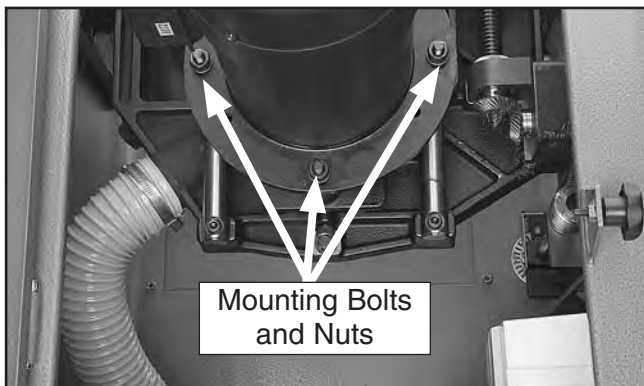
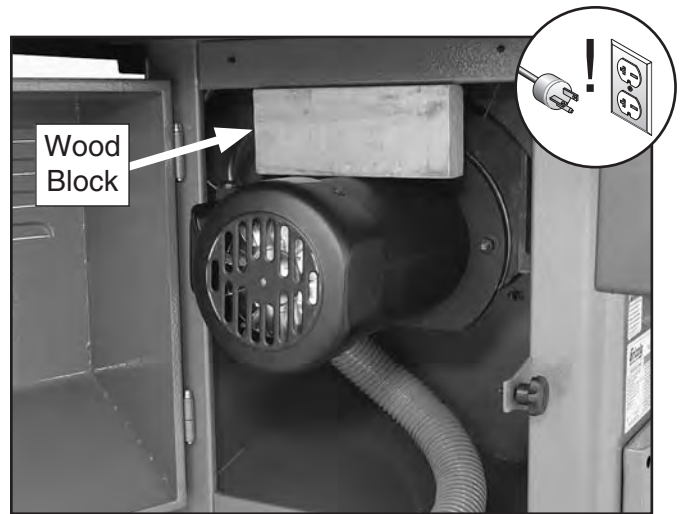
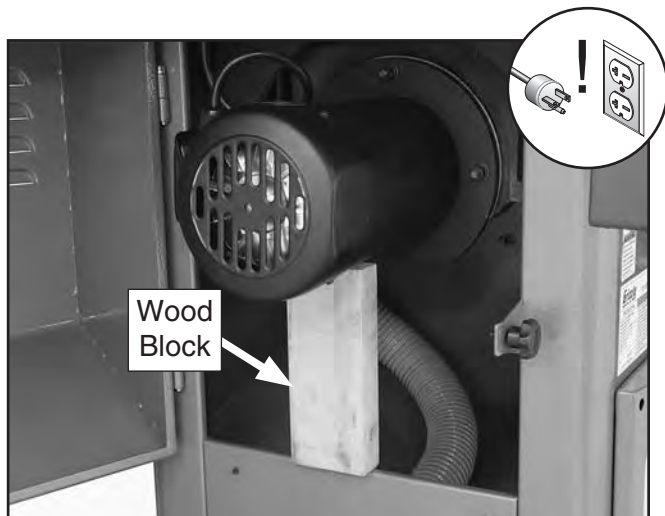

Figure 140. Motor mounting bolts.
Figure 141. Using wood block to tension belt.
Figure 143. Motor resting on wood block.
3. Loosen the three motor mounting hex nuts (**Figure 140**) two turns, then place the wood block on top of the motor, as shown in **Figure 141**.
3. Loosen the three motor mounting hex nuts (**Figure 140**) two turns, and place the 4x4 block between the cabinet and bottom of the motor, as shown in **Figure 143**.
4. Lower the arbor assembly until the motor rests on the wood block, as shown in **Figure 143**, then turn the handwheel an additional turn in the same direction to reduce tension on the belt.